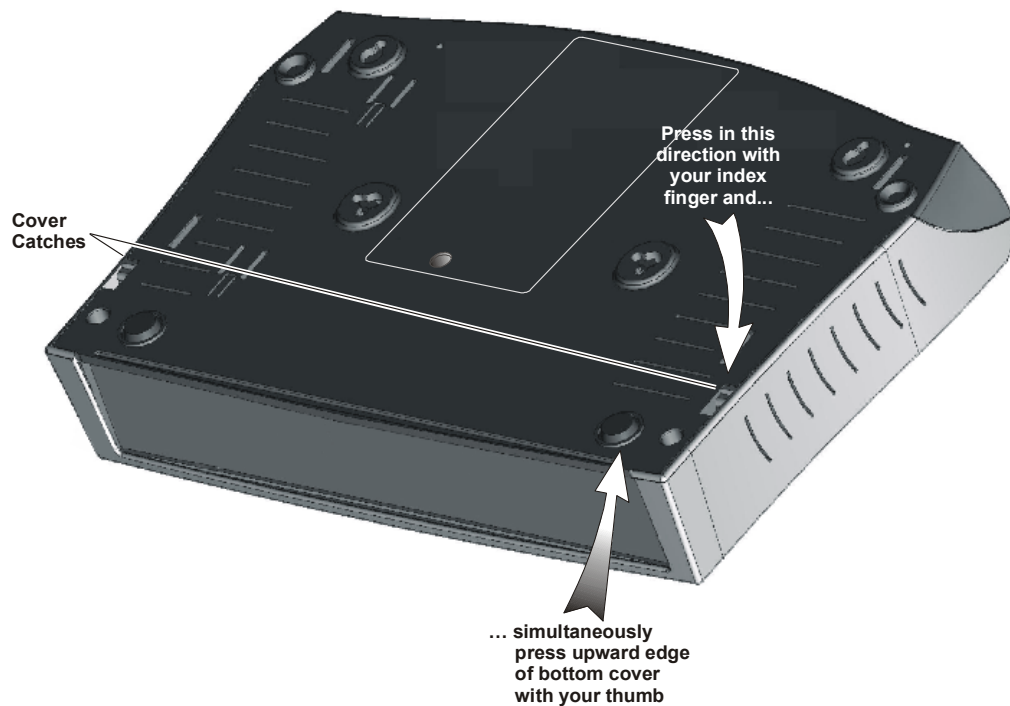

Figure 2-4. Releasing FCD-E1LC Cover Catches
2. Refer to Figure 2-4 and release the cover catches as illustrated in the figure. If pushing the catches with the nails of your fingers is difficult, you may use a narrow-blade screwdriver.